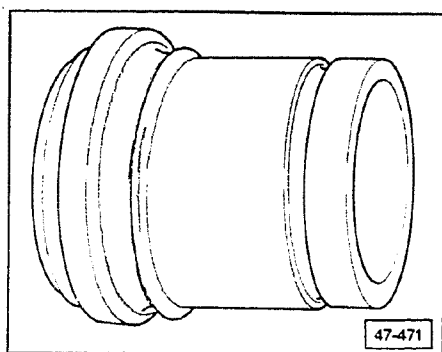

Fig. 3 Piston, installing
► Fig. 3 Piston, installing
► Fig. 3 Dust boots on pistons, installing
► Fig. 3 Dust cap for piston, installing